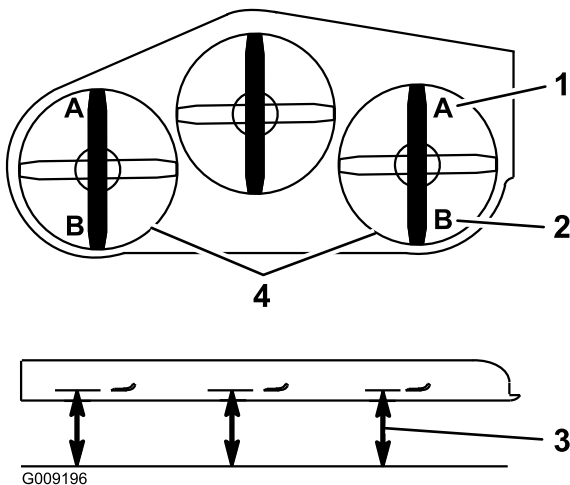

Figure 86
9. On both sides of the deck, measure from the level surface to the front tip of the blade (Position A). The measurement should read 3 inches (7.6 mm) (Figure 86).
15. On both sides of the deck, measure from the level surface to the back tip of the blade (Position B). The measurement should read 3 1/4 inches (8.3 cm) (Figure 86).